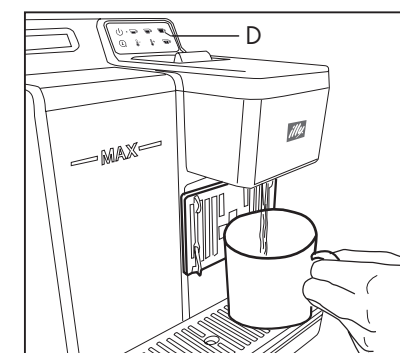

Fig. 7
- Press button (D) **(Fig. 7)** and wait until dispensing is finished. In this way the machine is rinsed.